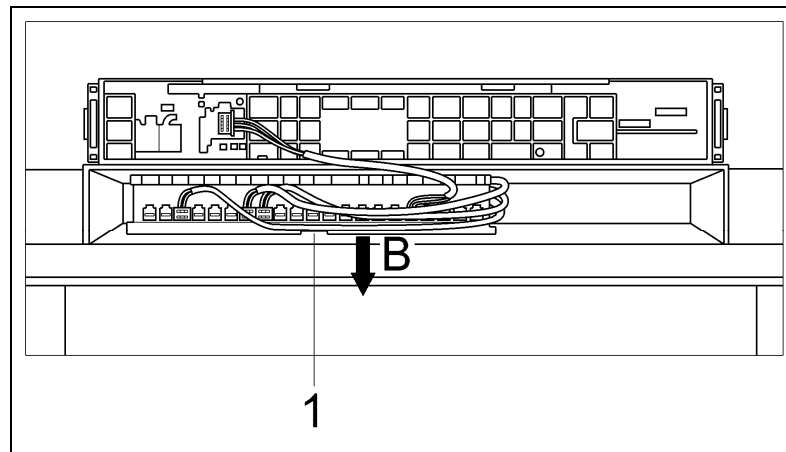

Figure 010-10: Power Electronic Connections
3. Unclip and remove the power electronic housing, Figure 010-10, Items 1